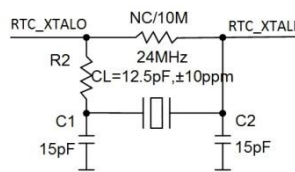

Figure 4.6 32.768KHz crystal oscillator circuit
32.768KHz crystal oscillator circuit (crystal oscillator load capacitance $CL=12.5\text{pF}$), reference circuit as shown in Figure 4.6.